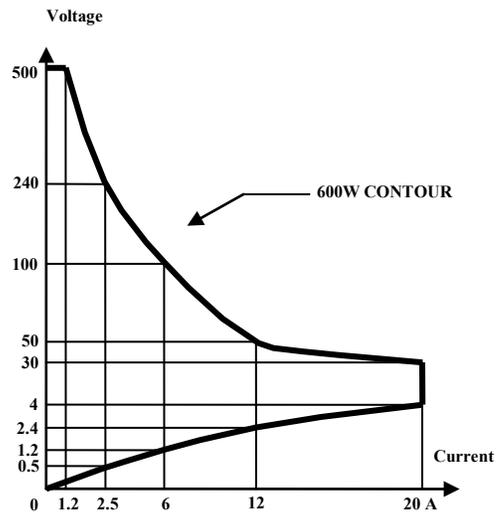

Fig 1-1 3360F Power Contour
The 3360F Series Electronic Load is designed to test, evaluation and burn-in of DC power supplies and batteries. The 3360F Series electronic load can be operated for manual and GPIB operation. The power contour of 3360F 600 Watts Electronic Load is shown in Fig 1-1~1-4, it has an input from 0-20A, and 0 -500V current and voltage operating range respectively. The power contour of 3360F Series. The prodigit 3360F Series high power electronic Load can be controlled locally at the front panel or remotely via computer over the GPIB/RS-232C/USB/LAN. Current (CC) mode, Constant Resistance (CR) mode, and Constant Voltage (CV) mode. and Constant Power (CP) mode. The wide range dynamic load with independent rise and fall current slew rate and analog programming input with arbitrary wave-form input is available in Constant Current mode.